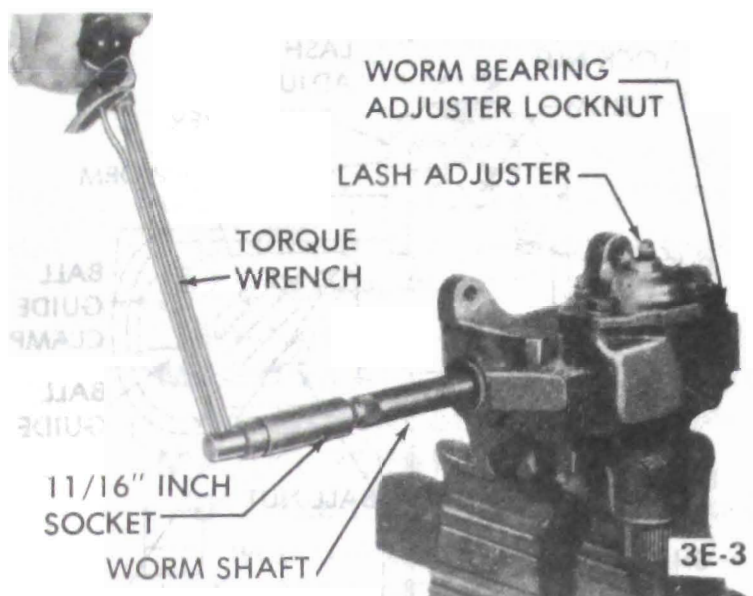

Figure 3E-3 Checking Adjustments on Bench
2. Attach inch-pound torque wrench with a 11/16" 12 point socket to worm shaft and rotate shaft to extreme right or left position. See Figure 3E-3. Never turn the wheel hard against the stopping point in the gear, as damage to the ball nut assembly may result.